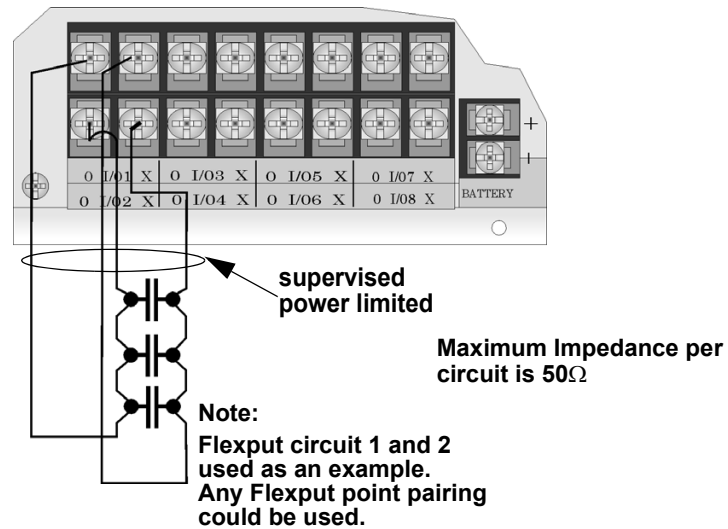

Figure 4.50 Class A initiating Switches
1. Wire the Class A switch as shown in Figure 4.50.
NOTE: In programming any point that uses multiple Flexput circuits, the lowest Flexput circuit number is used to refer to the circuit pair. For example, Figure 4.50 uses both Flexput circuit 1 and 2, so in programming it would be referred to as point 1.